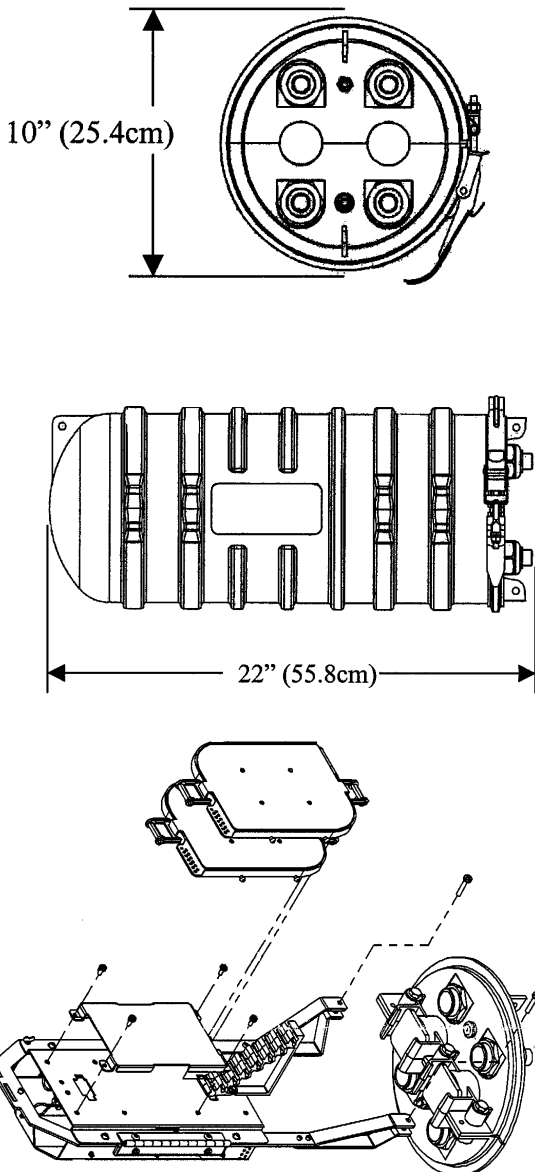

Figure 4
3.02 Closure Dimensions (Refer to figure 4)